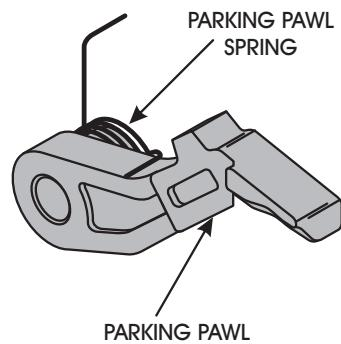

Figure 69
4. Install the parking pawl spring over the pilot on the back side of parking pawl and hook spring on the top, as shown in Figure 69.